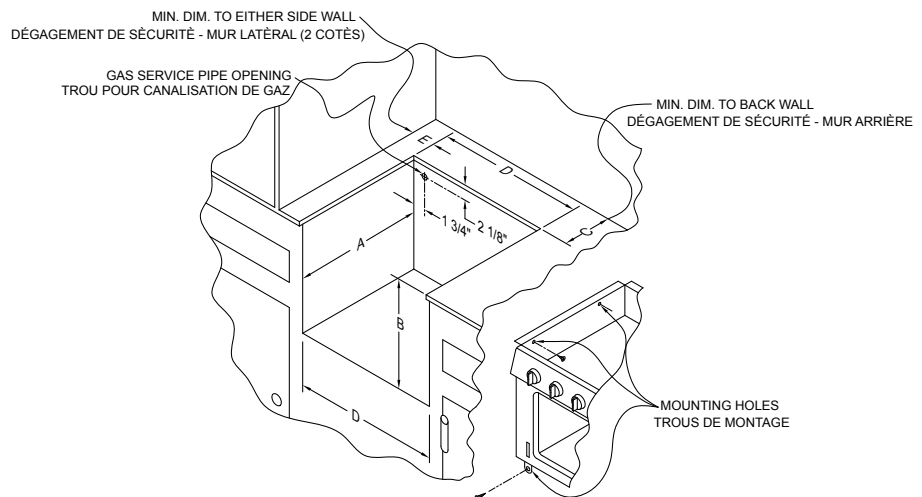

Figure 2
- Cut-out dimensions illustrated in Figure 2 are as follows: